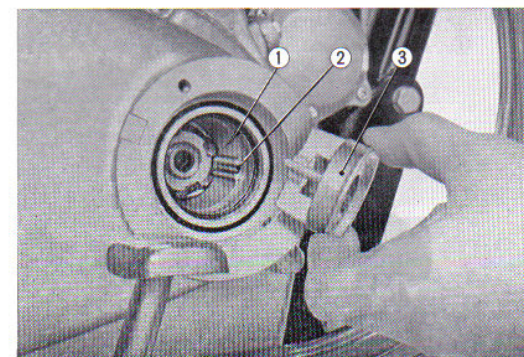

Fig. 6.17 Oil filter rotor cap installation
(1) A little oil will come out when the oil filter cover is removed.
(2) When reinstalling the rotor cap, the rotor cap vane should be matched to the groove on the inside wall of the rotor. (Fig. 6.17)
(3) Make sure that the spring loaded oil guide metal is perfectly clean and free in the oil filter cover.